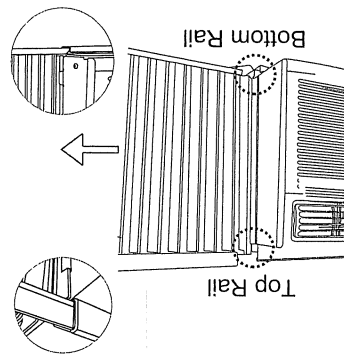

Fig. 3
C. Once the panel has been installed on the side of the cabinet, make sure it sits securely inside the frame channel by making slight adjustments. Slide the top and bottom ends of the frame into the top and bottom rails of the cabinet. Fig. 3.